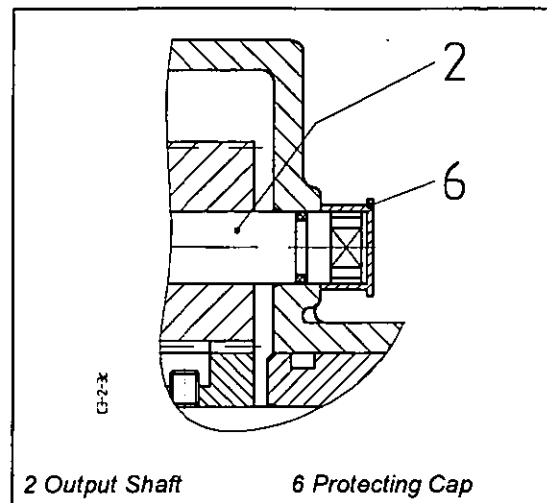

Fig. 3.3: Manual Emergency Adjustment
Manual Emergency Adjustment (Fig. 3.3)
- Remove the protecting cap (6) (see Fig. 3.3).
- To adjust turn output shaft (2) using spanner (10mm AF). 8 or 15 turns at the shaft corresponds to 100% of stroke adjustment, visible on the stroke length indicator (5).